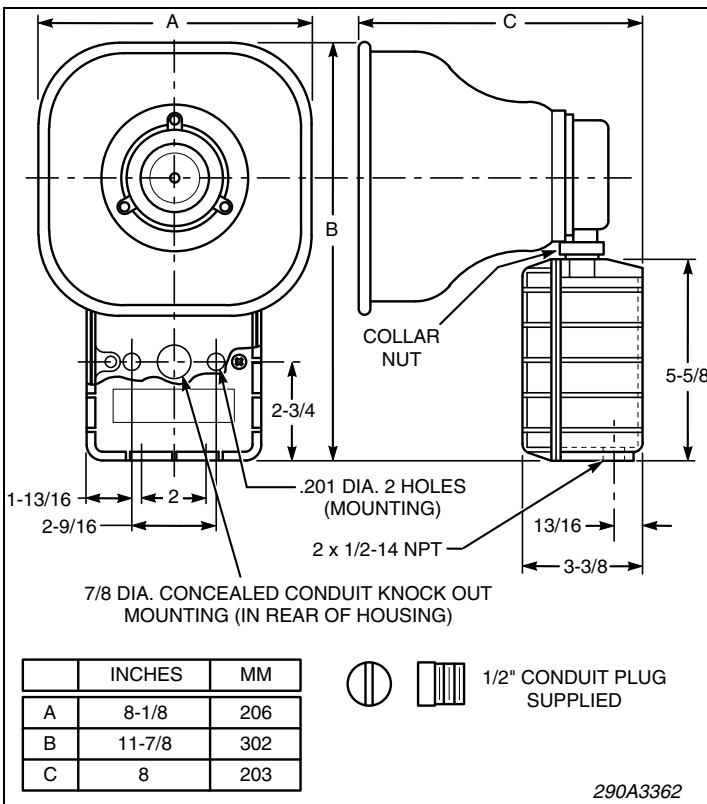

Figure 1. Model ASHP Dimensions
The amplified speaker can be mounted on any relatively flat surface. Conduit connections can be made to two 1/2" threaded openings at the bottom of the housing or to 7/8" knockout in rear of housing. A 1/2" conduit plug is supplied for field installation if one of the 1/2" threaded openings is not utilized. After the mounting location and mounting method have been selected, proceed with the applicable instructions below (see figure 1).
- c. Using the mounting holes (two (2) inside the housing) as a template, scribe drill position marks on the mounting surface. See figure 1 for mounting hole locations and dimensions.
- f. Reposition speaker projector if necessary to obtain desired sound coverage. Loosen collar nut (see figure 1) and move projector to desired position. Install two 1/2" conduit plugs in the unused bottom entryways (one plug supplied).
- e. Using the two (2) mounting holes as a template, scribe drill position marks on the mounting surface. See figure 1 for mounting hole locations and dimensions.
- g. Reposition speaker projector if necessary to obtain desired sound coverage. Loosen collar nut (see figure 1) and move projector to desired position. Install two 1/2" conduit plugs in the unused bottom entryways (one plug supplied).